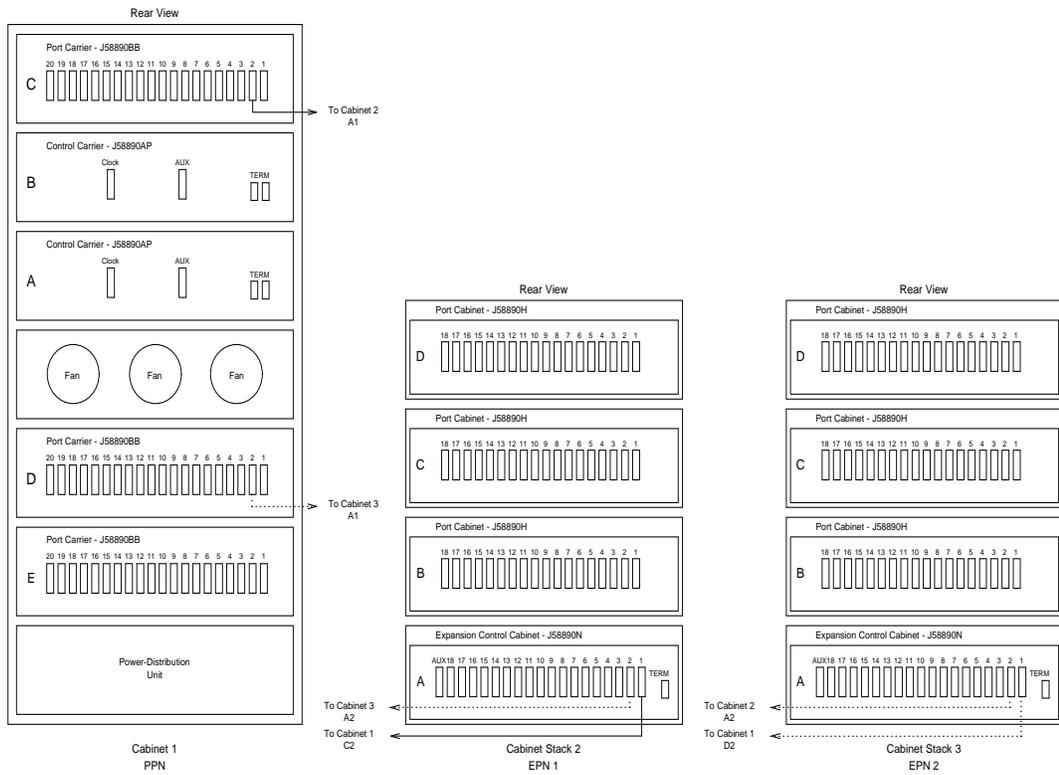
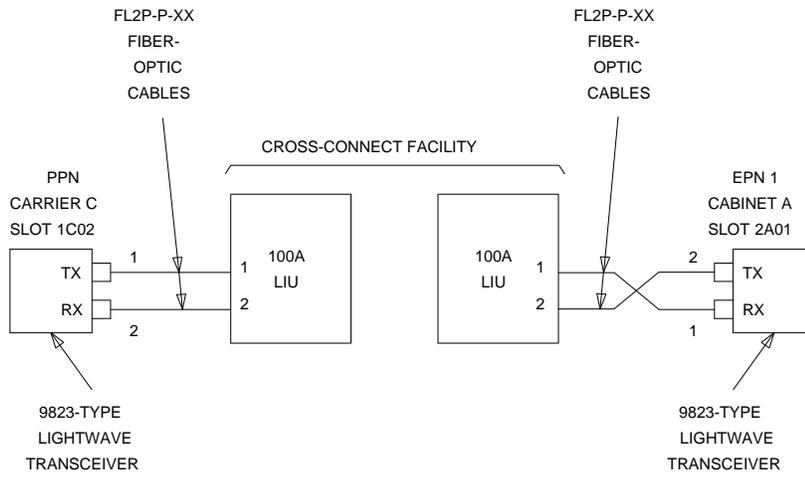
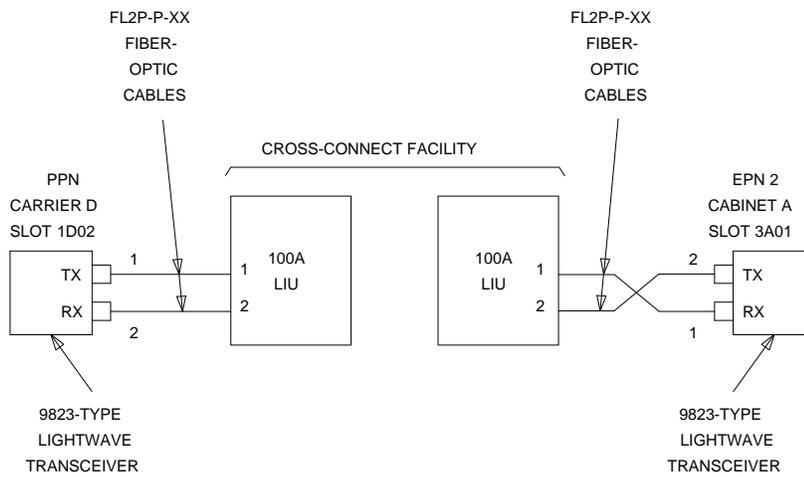
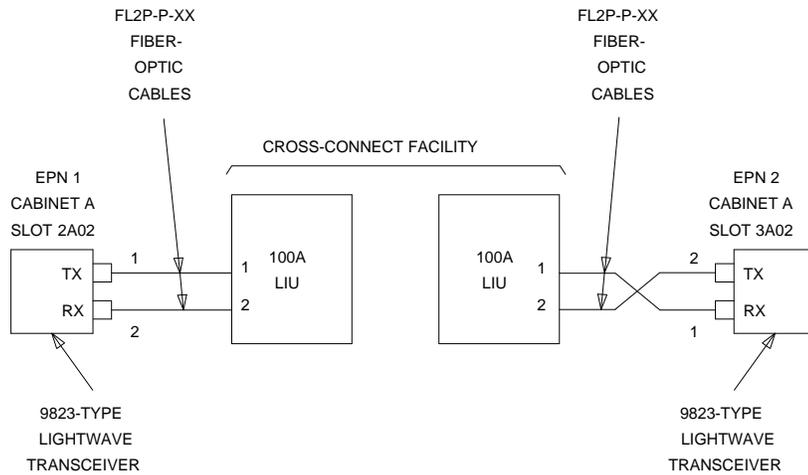

Figure 3-23. High-Reliability DEFINITY ECS R5r with Two or Three Port Networks
Figure 3-24. Fiber-Optic Connections PPN to EPN1
Figure 3-25. Fiber-Optic Connections PPN to EPN2
Figure 3-26. Fiber-Optic Connections EPN1 to EPN2
1. Behind port carrier C of the multicarrier PPN (Figure 3-23, Figure 3-24, Figure 3-25, and Figure 3-26):